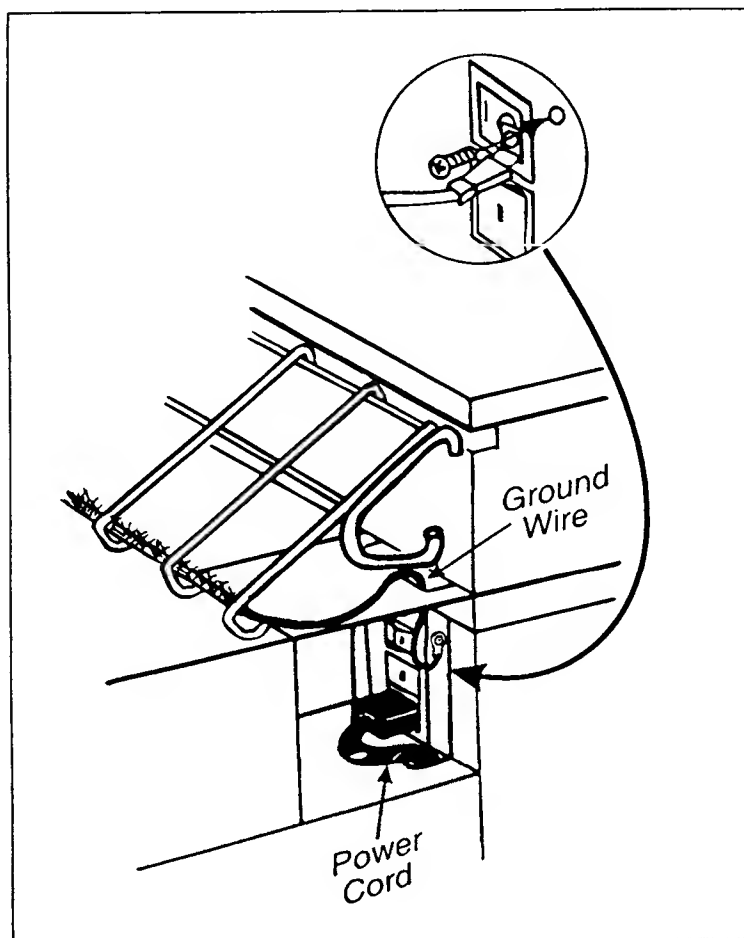

Figure 2-17. Main Weldment Pocket. Route power cord and ground wire.
- f. Connect the ground wire. Locate the small screw next to the power switch on the back panel of the printer. Insert the ground wire onto the spade lug underneath the screw (figure 2-17).